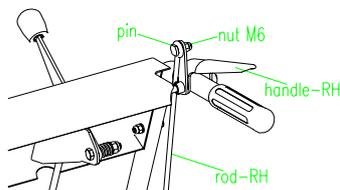

FIG 6
2.4.2 Assemble the upper side of Rod-RH onto the right side of the handle with the pin and the nut M6. (FIG 6)